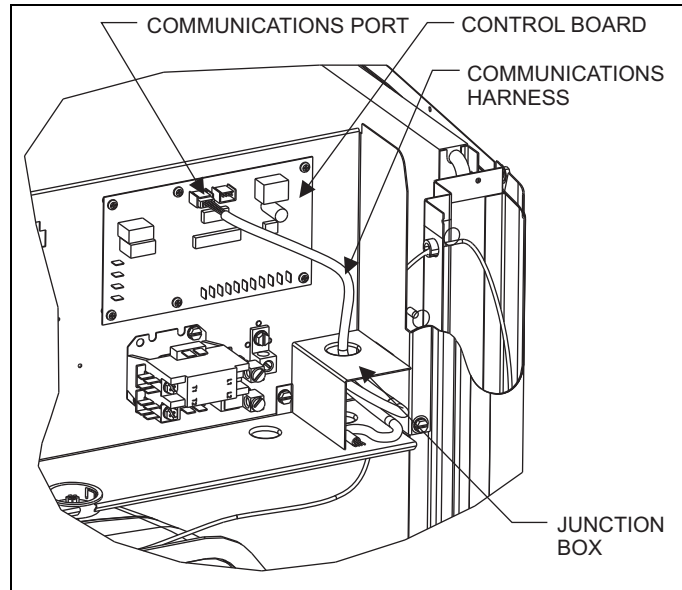

FIGURE 2: Communications Harness Connection
9. For full COMMUNICATING WIRING applications install communicating wire harness 500645 / S1-02542694000 or available through the communicating thermostat kits (S1-YACNC01, S1-CZCNC01, S1-LACN01). These are all available through Source 1. Connect plastic connector to the communication connection on the outdoor control board. Refer to Figures 2, 4 & 5. Route wires into low voltage box and connect thermostat wire per the thermostat installation diagram or unit installation instructions.
8. For full COMMUNICATING WIRING applications install communicating wire harness 500645 / S1-02542694000 or it is available through the communicating thermostat kits (S1-YACNC01, S1-CZCNC01, S1-LACN01). These are all available through Source 1. Connect plastic connector to the communication connection on the outdoor control board. Refer to Figures 2, 4 & 5. Route wires into low voltage box and connect thermostat wire per the thermostat installation instructions.